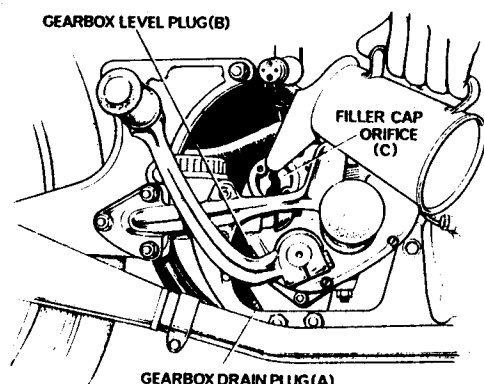

Fig. K5 Gearbox drain and level plugs
An oil level plug is fitted in the gearbox cover (see Fig. K5).
To check level, remove plug (see Fig. K5, item B) whereupon oil should seep gently out if level is correct. If topping up is necessary, remove the filler cap (see Fig. K5, item C) and replenish with correct grade of oil until the oil begins to seep from the level plug orifice. Replace the filler cap and the level plug.
The gearbox oil should be changed after a run so that the warm oil flows more freely (see Fig. K5). Remove the filler cap and drain plug (A) and drain the oil into a suitable container. Replace the drain plug and fill the gearbox through the filler cap orifice (C). Allow time for oil to pass through the inner cover into the shell. When the level plug is removed, oil should run from the level plug hole (B). Allow the surplus oil to drain off and replace the level plug and filler cap. If this method is not followed a false level indication will be gained.